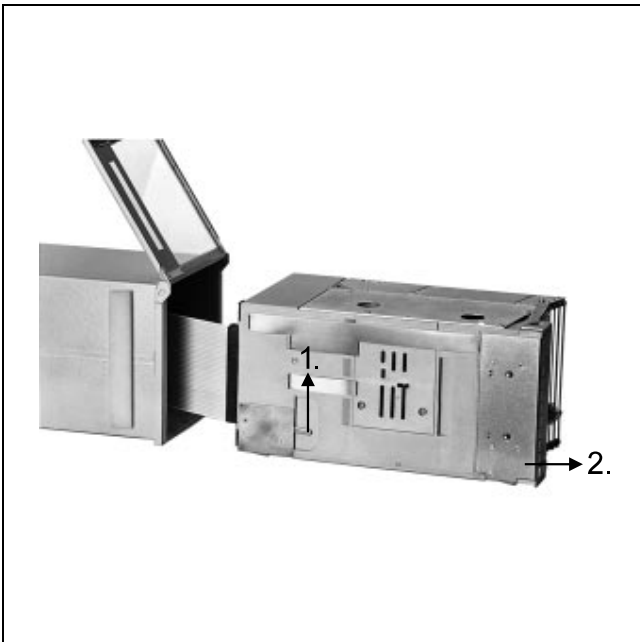

Fig. 21 View from below!
2. Move pull-to-unlock lever 1 (accessible from underneath) in direction of arrow (1.) and remove the chart unit completely from the case (2.) (see fig. 21).